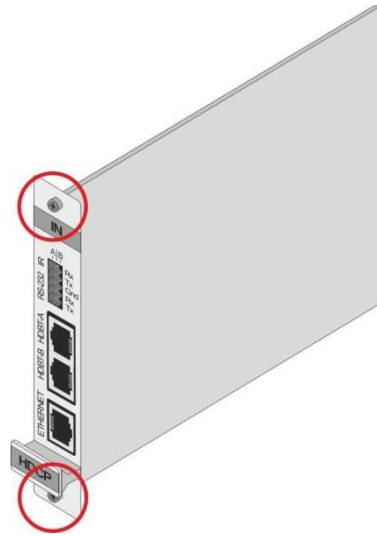

Figure 21: Card Handles
2. Using a Phillips screwdriver, loosen the screws at the top and bottom of the blanking plate (see Figure 21).